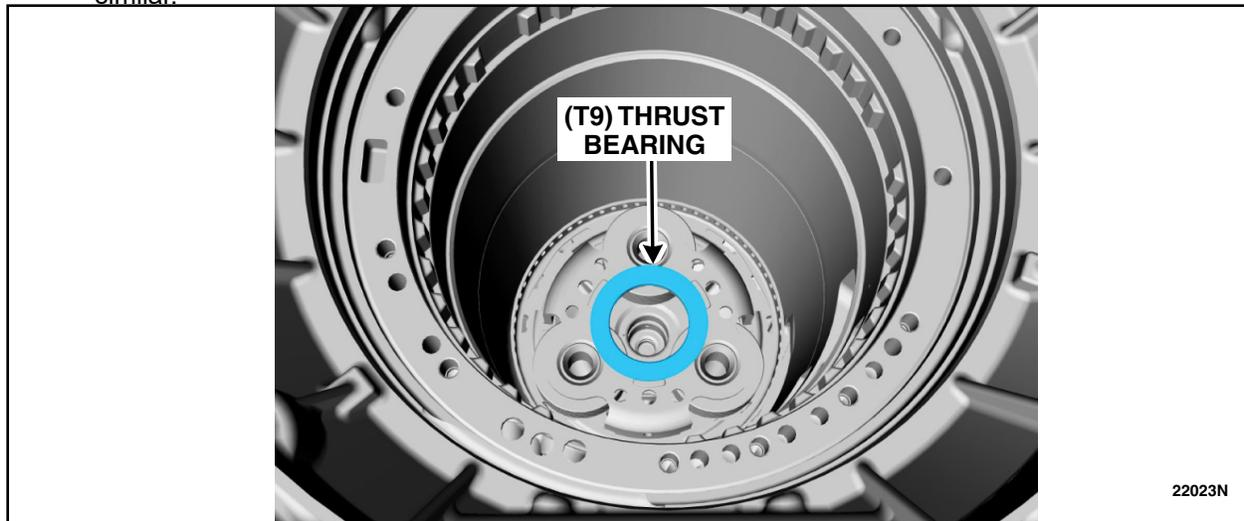

FIGURE 21
24. Remove the (T9) thrust bearing. See Figure 21.